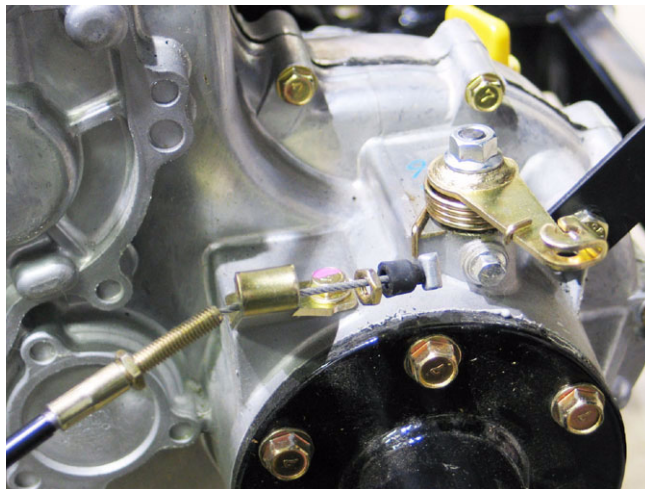

Figure 4.38
- 4.38. The back of the cable is secured to the cable holder by a pair of jam nuts: one on each side of the cable holder. See Figure 4.38.